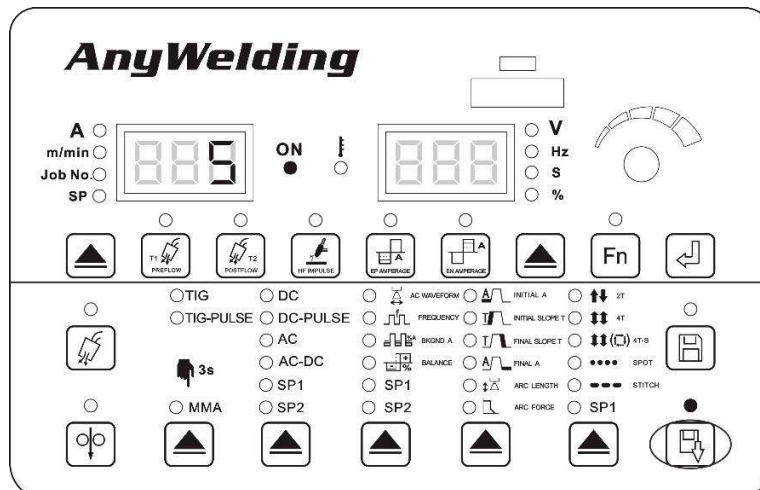

Figure6-3 Recall settings interface
2. Select the JOB number(0~49)with the panel knob and press the"enter"key to confirm,as shown in Figure 6-3.